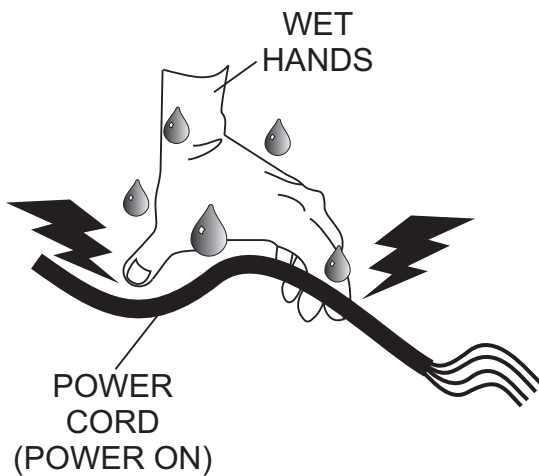

Figure 18. Power Cord (Wet Hands)
4. **NEVER!** grab or touch a live power cord (Figure 18) with wet hands, the possibility exists of **electrical shock**, **electrocution** and even **death**.